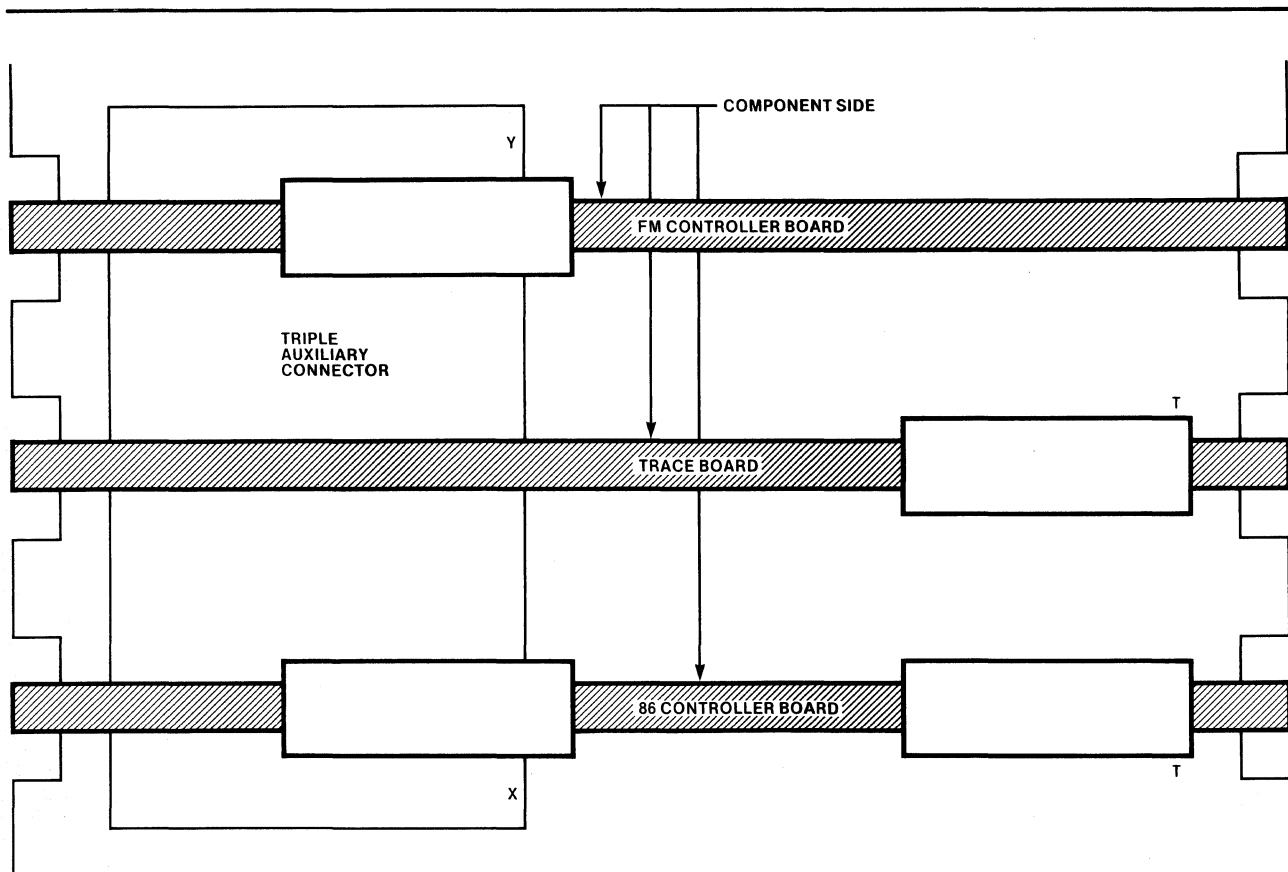

Figure 2-1. Orientation of Circuit Boards
8. Install the 86 Controller board next to the Trace board in the slot with the number higher than the Trace board. Figure 2-1 shows the proper order of the boards in the cardcage.
8. Install the 86 Controller board in the expansion chassis slot immediately below the Trace board. Figure 2-1 shows the proper order of the boards in the expansion chassis.